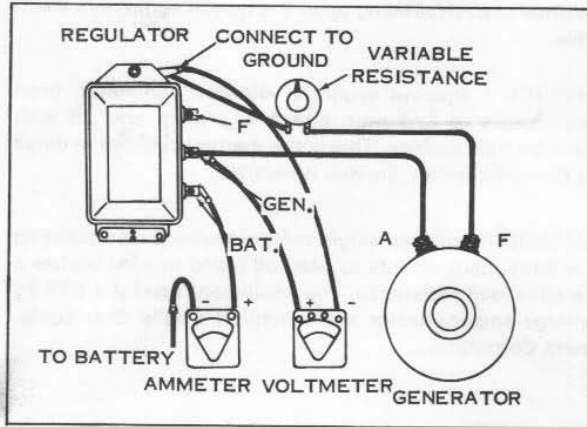

Figure 5-27.
A. TESTING THE GENERATING SYSTEM (See Figure 5-27)
B. TESTING CUTOUT RELAY UNIT CLOSING VOLTAGE (THE SAME CONNECTIONS ARE USED AS IN TEST A (Figure 5-27))